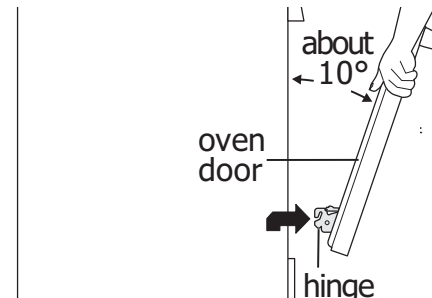
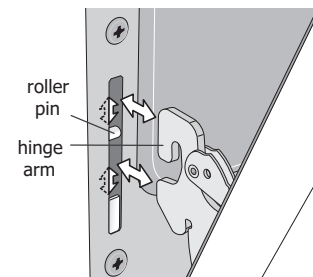

Figure 13: Holding door for removal/replacement
Figure 14: Replacement and location of hinge arm and roller pin
3. Close the door to approximately 10 degrees from the door frame (Figure 13).
4. Firmly grasp both sides of oven door along the door sides. Do not use the oven door handle (Figure 13).
5. Lift the oven door hinge arms over the roller pins located on each side of the oven frame (Figure 13).
1. Firmly grasp both sides of oven door along the door sides. Do not use the oven door handle (Figure 13).
2. Holding the oven door at the same angle as the removal position, seat the hook of the hinge arm over the roller pins located on each side of the oven door frame (Figure 13 and Figure 14). The hook of the hinge arms must be fully seated onto the roller pins.